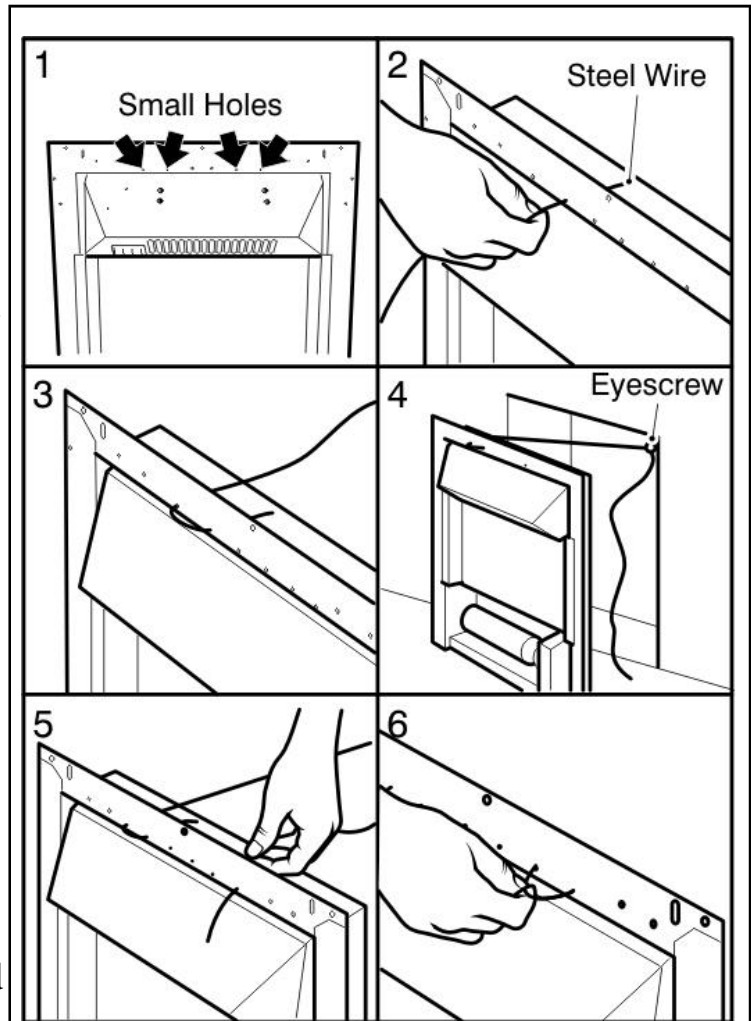

Figure 6. Steel wire fixing (The fuel effect may differ from that shown)
7. At the top of the heater there are four small holes, two each side of the heater (See figure 6- Item 1). From the front of the heater, thread about 50mm (2 inches) of the steel wire into the inside small hole on the left side of the heater (See figure 6 - item 2).
8. Thread the other end of the wire through the remaining small hole on the left hand side of the heater. Continue to push the wire through this hole until there is only a small loop of wire at the front of the heater (See figure 6 - item 3).
9. At the back of the heater there will be a long piece and a short piece of wire coming through the two holes. Hold the short piece and give the long piece a gentle tug. This will secure the steel wire. Take the long piece and thread this through the eyescrew in the back of the fireplace opening (See figure 6 - item 4).
10. From the back of the heater thread the long piece of steel wire through the outer small hole on the right hand side of the heater (See figure 6 - item 5).
11. Locate the heater in the fireplace opening, then from the front of the heater, gently pull the steel wire on the right hand side to gather up the excess until the heater is secure. Thread the wire through the remaining small hole to lock the wire and heater in place (See figure 6 - item 6).